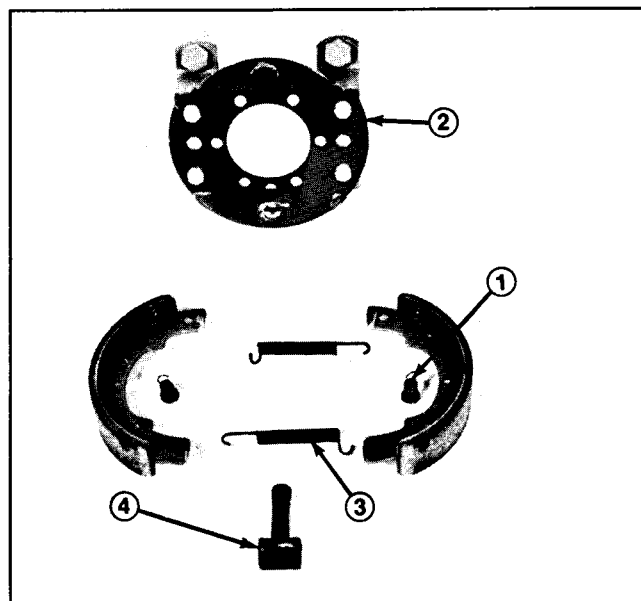

Figure 16
1. If equipped with anti-vibration springs (Model 04350, S/N 91696 and below), insert them into backing plate from underside and hook them onto the brake shoes (Fig. 16).